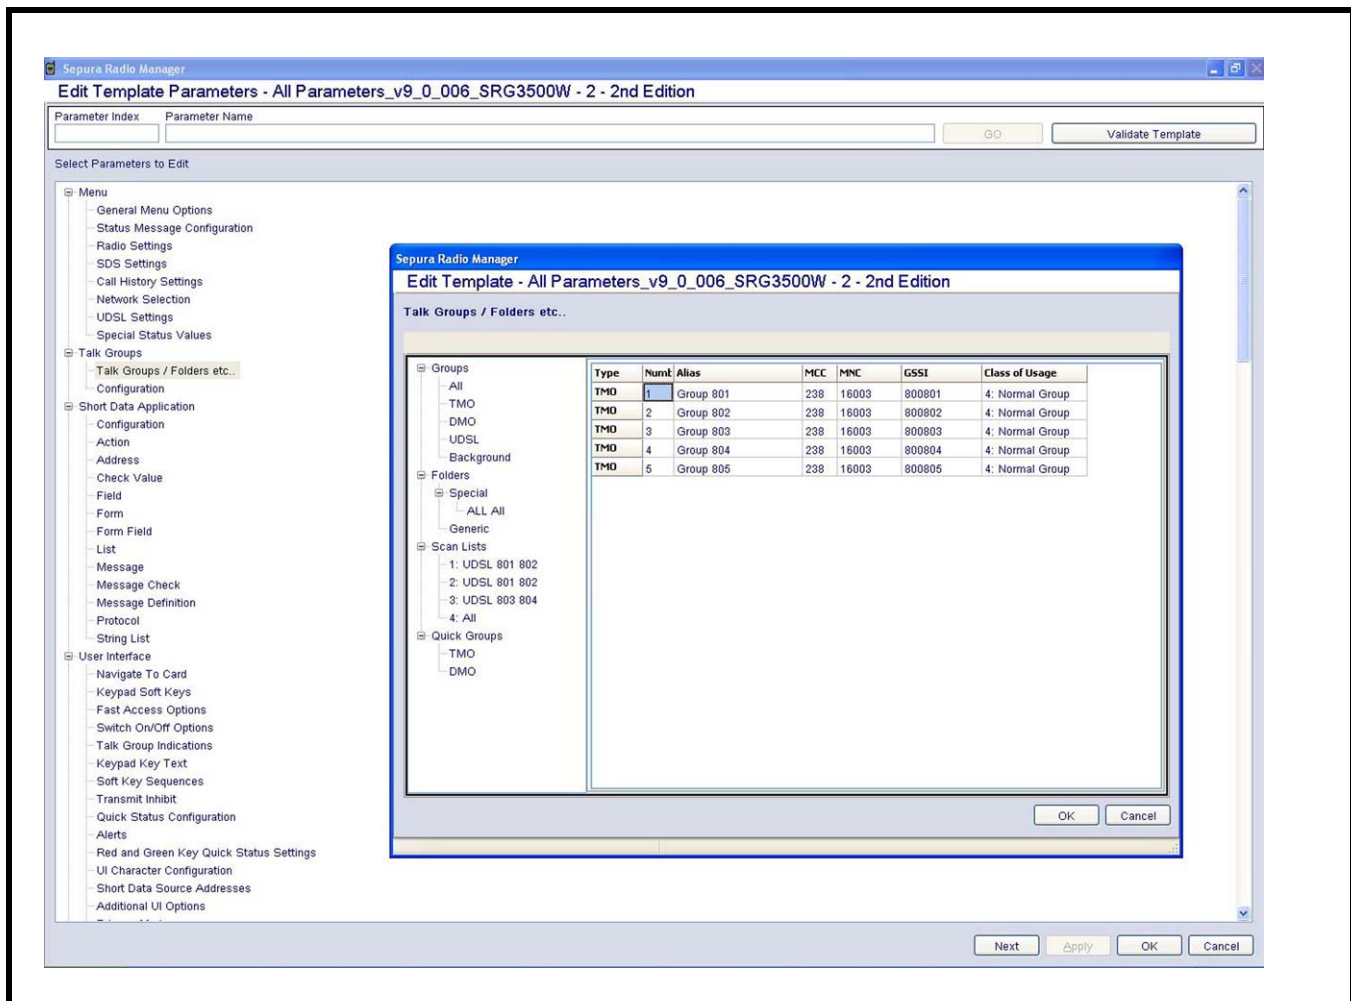
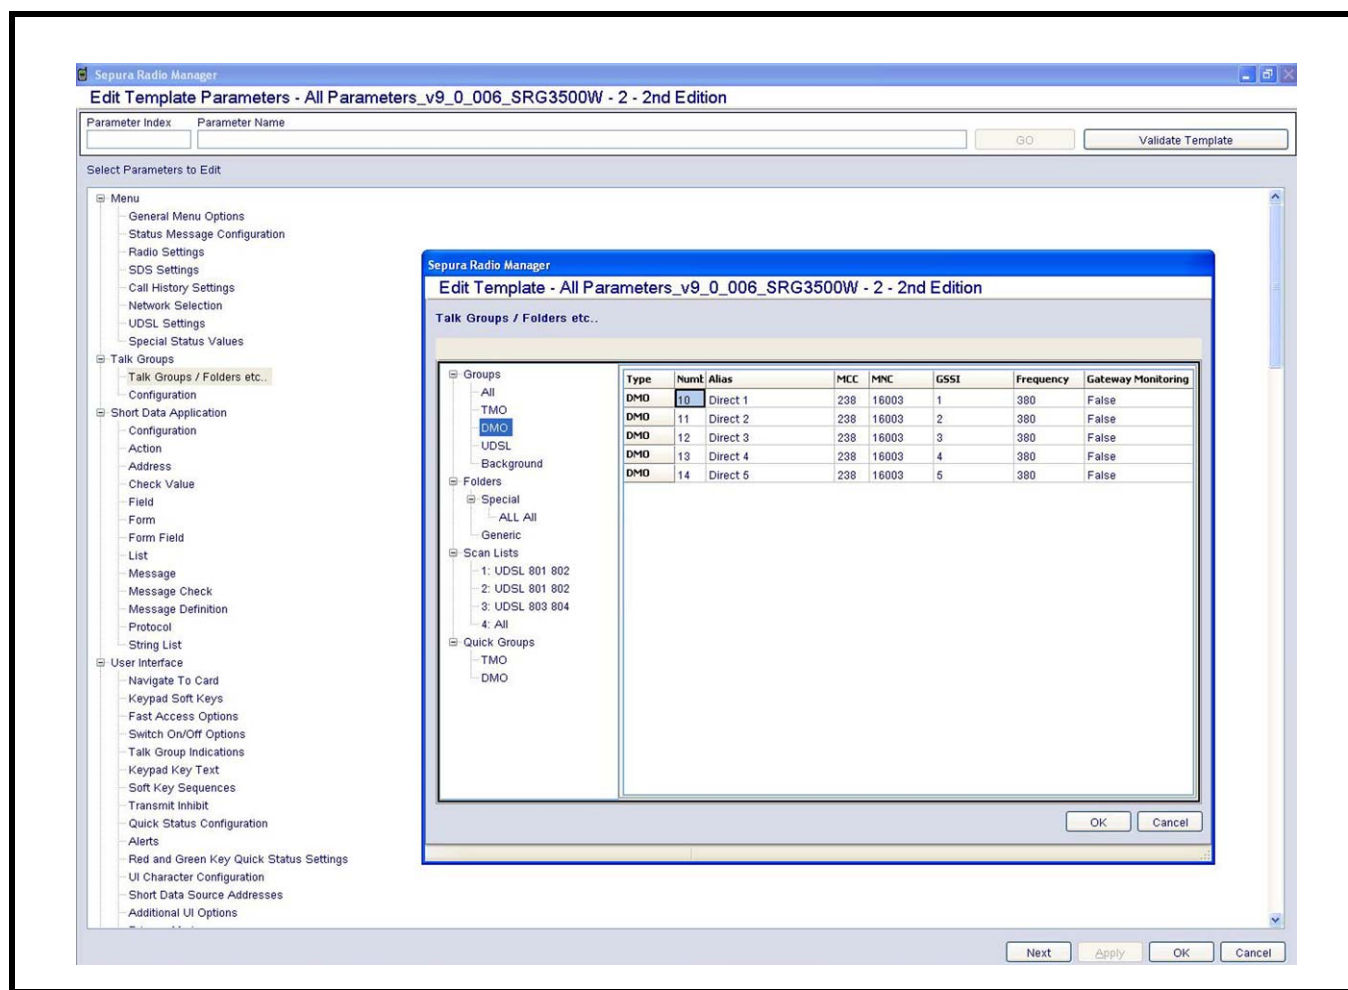

FIGURE 7. Example of Trunked Mode Talk Group Setup
FIGURE 8. Example of Direct Mode Talk Group Setup
**NOTE:** See example shown in Figure 7.
**NOTE:** See example shown in Figure 8.
**NOTE:** Talk group configurations shown in Figure 7 and Figure 8 are provided as a guide and to aid later discussions. Guidance given here does not replace the authoritative documents and all terminal configurations should be made in accordance with the relevant Sepura Radio Manager manuals. Terminals requiring infrastructure access should be configured as directed by the local TETRA network manager.